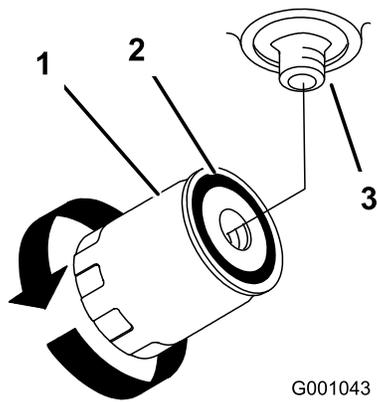

Figure 75
- 4. Remove the old filter and wipe the filter-adapter gasket surface clean (Figure 75).
- 7. Turn the oil filter clockwise until the rubber gasket contacts the filter adapter, and tighten the filter an additional 1/2 turn (Figure 75).